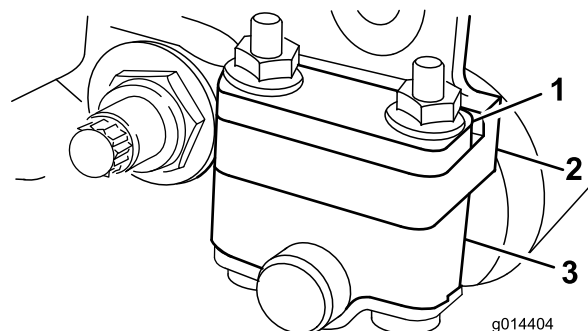
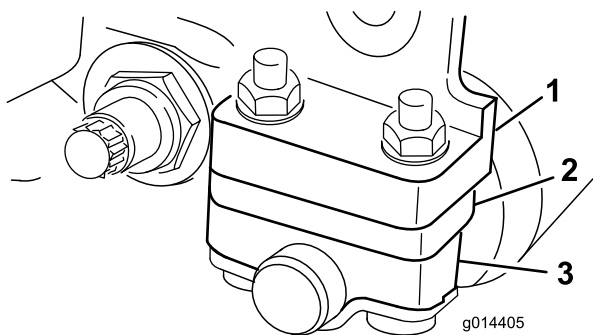

Figure 6
Figure 7
Depending on your desired height-of-cut range you need to adjust the the rear roller brackets (Figure 6 or Figure 7) to the low or high position:
- Position the spacer above the sideplate mounting flange (factory setting) when the height-of-cut settings range from 1/16 to 1/4 inch (Figure 6).
- Position the spacer below the sideplate mounting flange when the height of cut settings range from 1/8 inch to 1 inch (Figure 7).
4. Place the spacers onto the screws above of below the roller brackets, as required (Figure 6 or Figure 7).